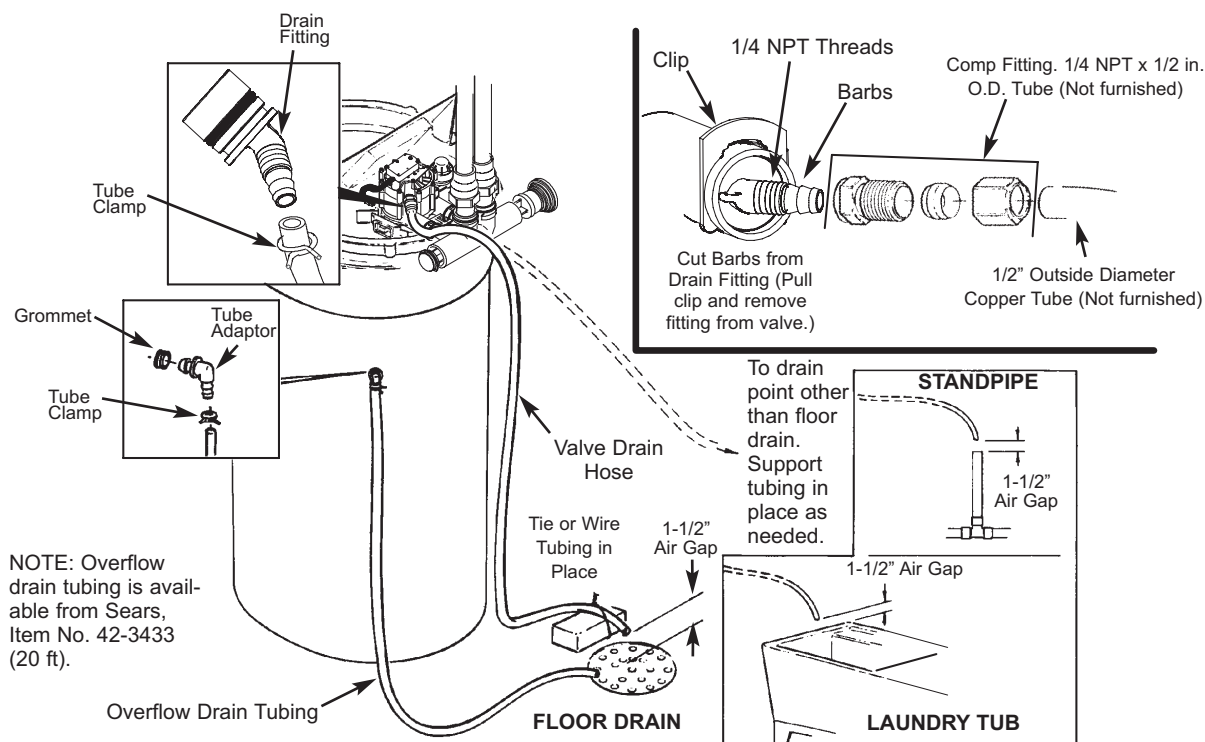

FIG. 16
Take a length of 3/8" inside diameter drain tubing and attach one end to the drain fitting. See Fig. 16. Use a tube clamp to hold it in place. Put the other end of the tubing over a floor drain, into a laundry tub, standpipe, or other suitable drain. **Check your local codes.**
1. Locate the rubber grommet, tube adaptor and tube clamp (see Fig. 16) that are in the parts bag.
IMPORTANT: Overflow water must run downward through the tubing. Do not raise the tubing higher than the grommet and tube adaptor. See Fig. 16.